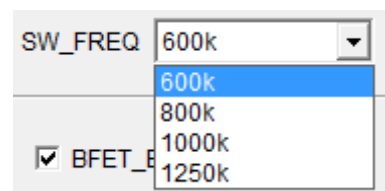

Figure 14: Switching Frequency Configuration
12. Set the switching frequency (see Figure 14).